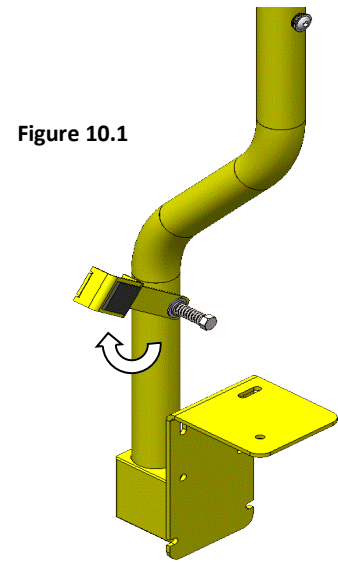

Figure 10.1
STEP 10—Rotate Spacer Blocks on the uprights upward and out of the way to allow installation of the sheet metal detail (see **Figure 10.1**).